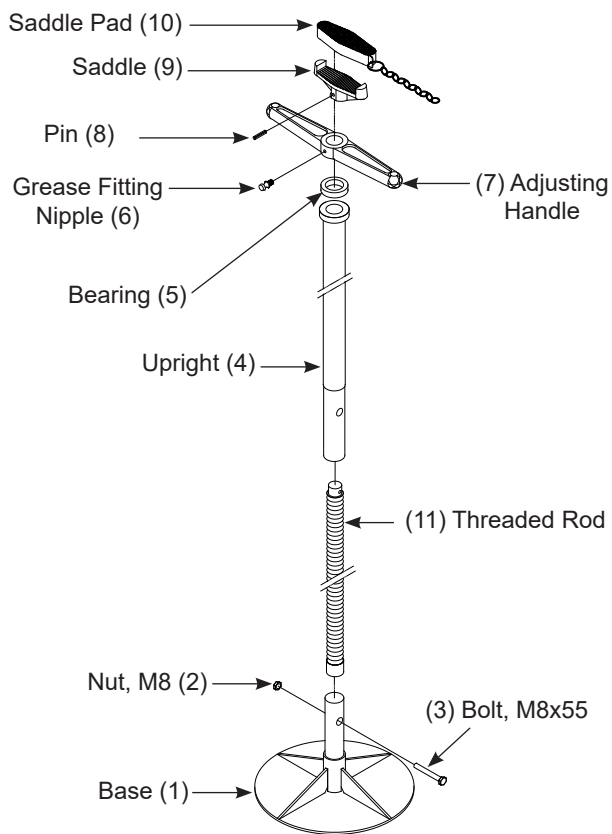

Figure 1 - BH5710 Nomenclature
1. Make sure all parts are present (see Fig. 1 & 2). If any parts is missing or damage, do not attempt to assemble, install or operate the product. Contact Customer service.
2. Begin assembly by inserting smaller end of threaded rod (11) through the bottom of upright (4), allowing small end of threaded rod to project out of the top of upright.
3. Place bearing (5) over the threaded portion, then spin the adjusting handle (7) clockwise onto the threaded rod.
4. Saddle (9) can now be fastened by inserting the pin (8) through saddle & threaded rod (11).
5. a. For Model BH5710 (see Fig. 1):
Parts List: (see Fig. 1 & 2 for reference number.)